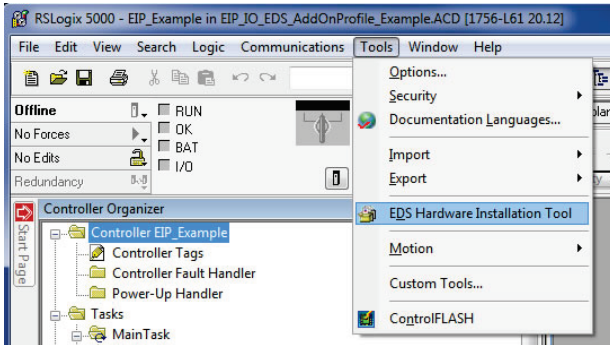

Figure 43: EDS Hardware Installation Tool Menu
- 1) Register the interface card's EDS file. In the menu bar, navigate to Tools...EDS Hardware Installation Tool. Refer to Figure 43.